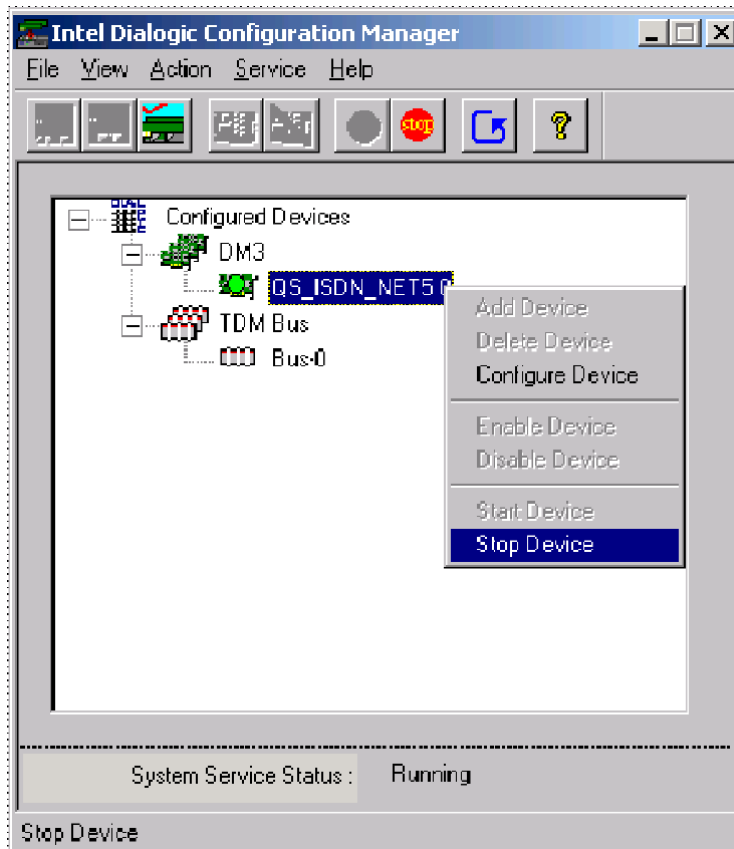

Figure 30. Start/Stop Boards
4. Select **Stop Device** from the Action Menu or right click on the device and select **Stop Device** from the context menu (see Figure 30, “Start/Stop Boards”, on page 137).